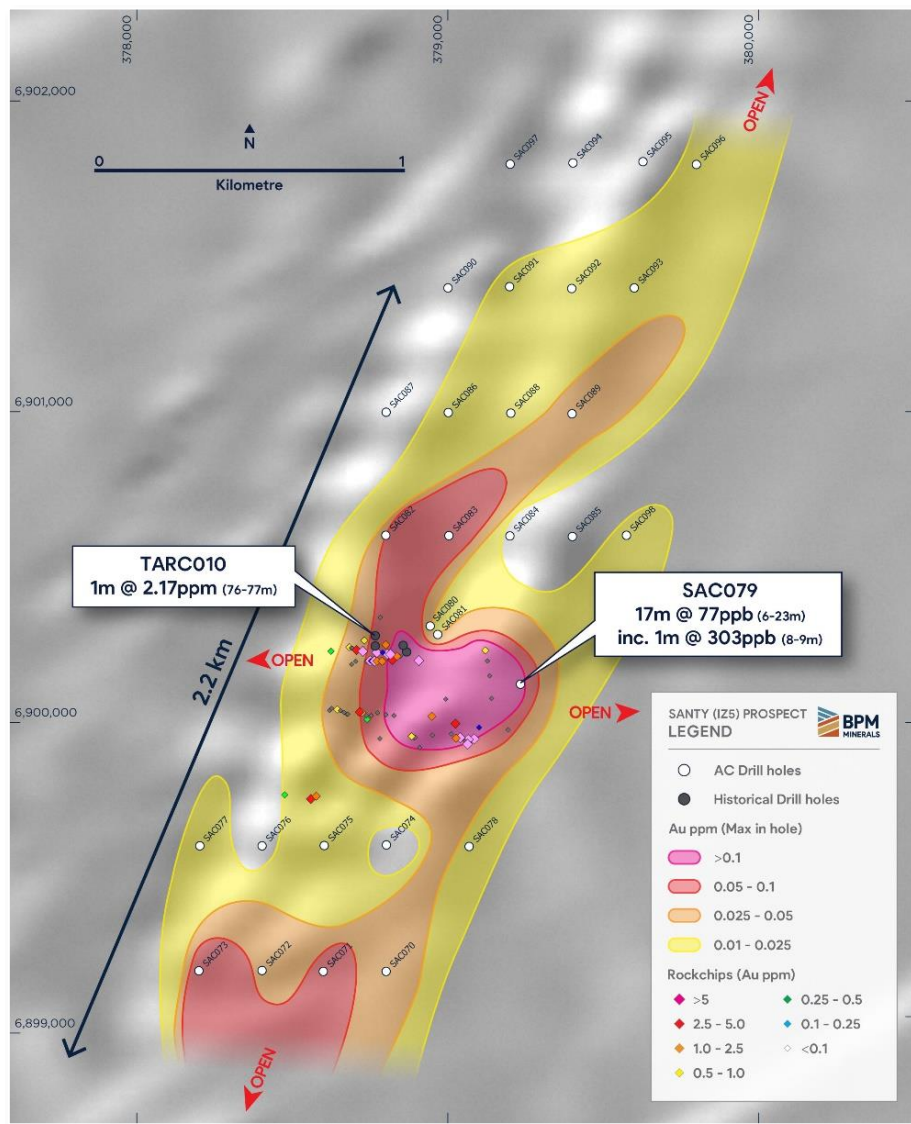

Figure 7 - BPM Minerals Santy Project with 2.2km-long anomalous gold zone.
- Phase-1 AC drill program completed, outlining a 2.2km-long gold anomalous zone (Fig. 7) with most of the highest priority targets to be drilled next month.